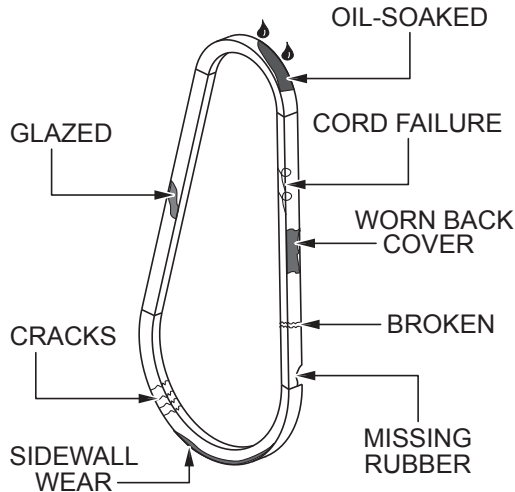

Figure 52. V-Belt Inspection
1. Inspect the V-belt (Figure 52) to determine if it is frayed, peeling, full of tiny cracks, has pieces of rubber missing, or is otherwise damaged.
2. Inspect the V-belt (Figure 52) to determine if it is oil-soaked or *glazed* (a hard, shiny appearance on the sides of the belt). Either of these conditions can cause overheating of the belt, which can weaken the belt and increase the possibility of it breaking.